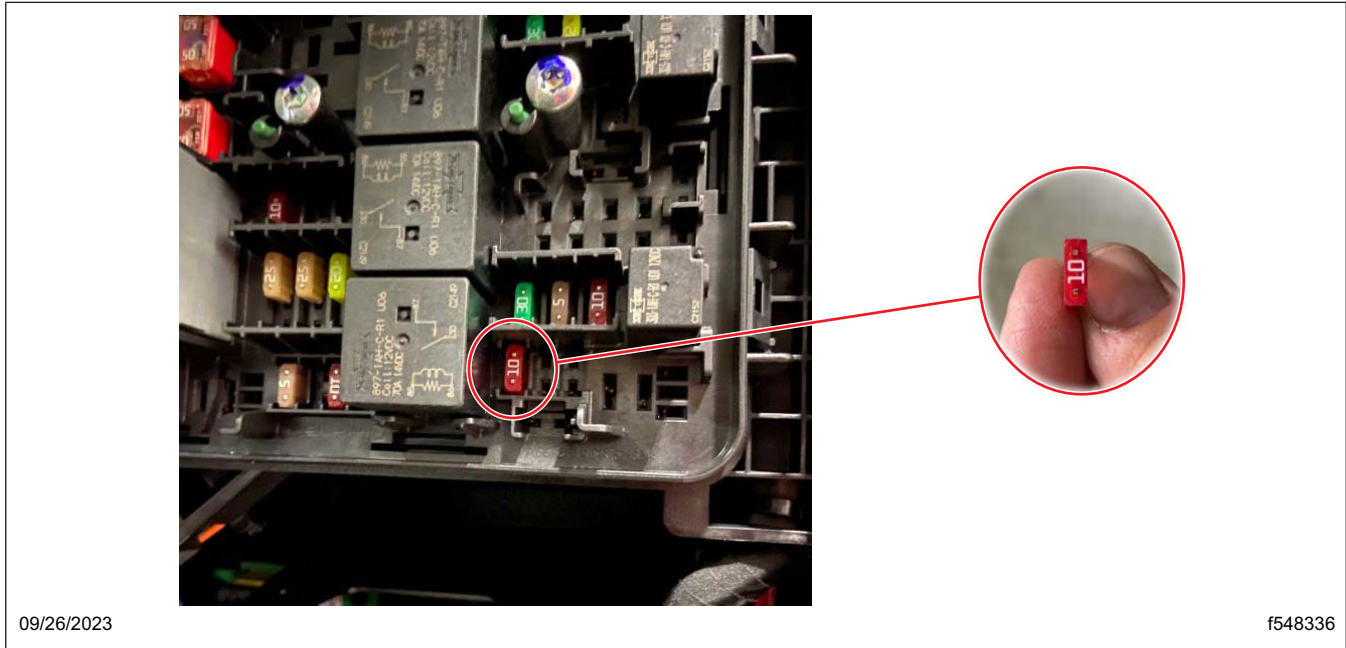

Fig. 68, Installing the 10A Fuse in the VPDM Fuse Position F75
- 14.8 Install the 10A fuse (23-12537-010) in the VPDM fuse position F75. See Fig. 68.